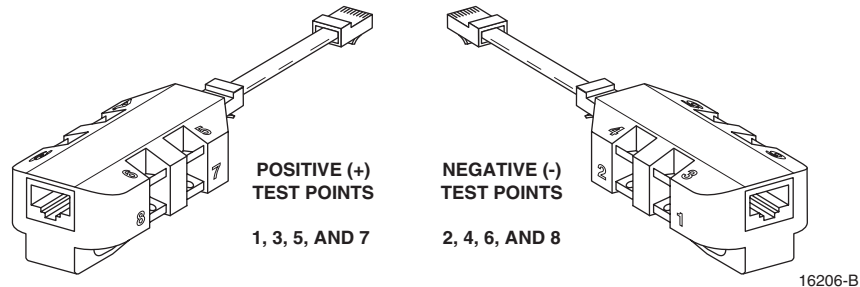

Figure 29. RJ-45 Circuit Access Tool Pin/Wire Designations
4. Using a DC voltmeter, verify that the DC voltage level is between 34 and 48 Vdc between any set of positive and negative (+/-) terminals at the RJ-45 circuit access tool as shown in Figure 29. Due to source current limiting at the DHU or DEU, low voltage can mean excess wire resistance, low source voltage, or excess remote current.
6. Use the DC voltmeter to check for open pin connections by checking for voltage between the +/- pairs on the RJ-45 circuit access tool (see Figure 29).